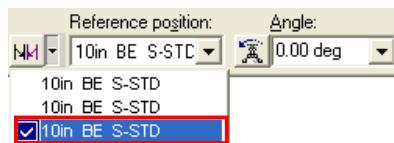

Figure 55: Branched Port Option in the Flip Drop-Down List
81. On the ribbon, just before **Reference position**, there is a small drop-down arrow called the **Flip** drop-down list, where you can select the port to be used for the placement of a component. Click this arrow and select the third port, **10in BE S-STD**, as shown in Figure 55.